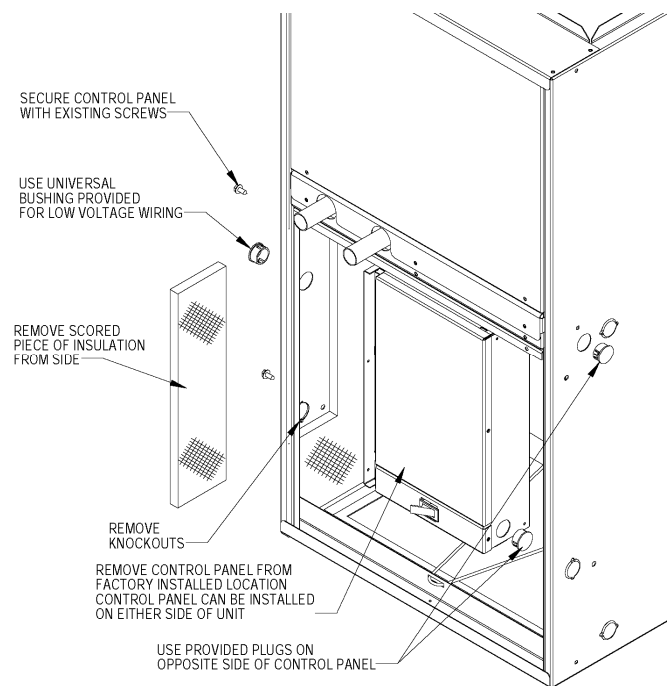

Figure 12: Control Box Relocation
The Control Box is factory installed in the blower compartment upper left corner (see Figure 12); if factory location of Control Box is suitable, proceed to next section. To relocate the Control Box to an alternate location (blower compartment upper right
2. Remove and keep two screws holding Control Box to casing of 37AHA unit (See Fig. 12.).